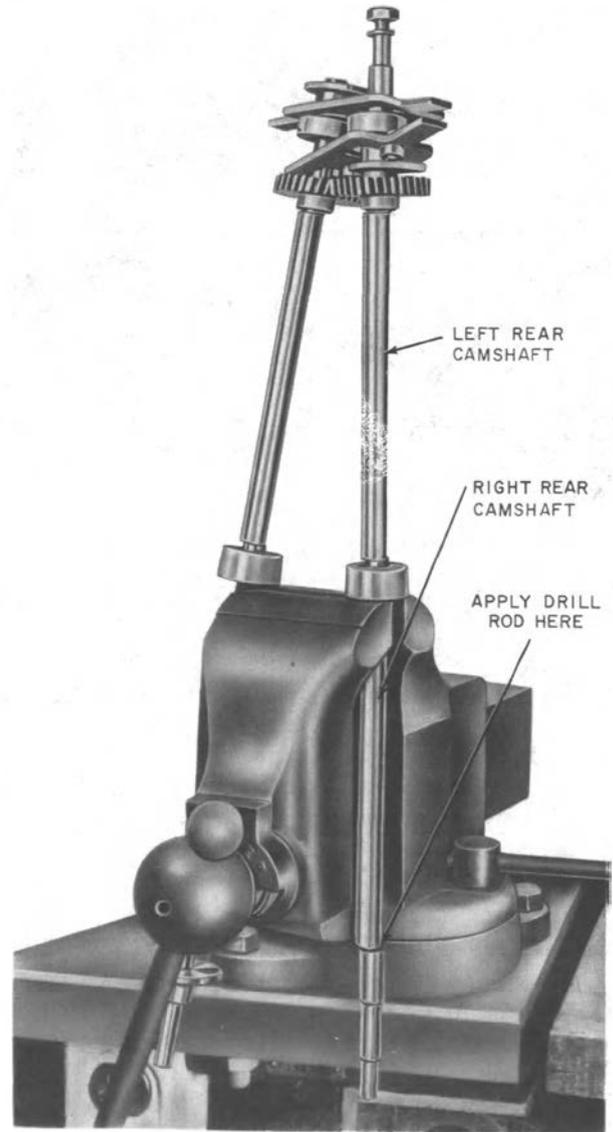

Fig. 54—Removing Right Rear Camshaft (Earlier Yoke Assembly Arrangement)
- (42) If front and rear camshaft assemblies are coupled together with the earlier yoke assembly arrangement, proceed as follows.
- Place the assembly in a vise with the shaft to be replaced held loosely between the vise jaws. (Fig. 54 shows the assembly positioned in a vise for removal of the right rear camshaft.)
- Disengage the right rear camshaft from the center bearing by applying the 4-inch length of 1/4-inch drill rod to the step in the shaft (Fig. 54).